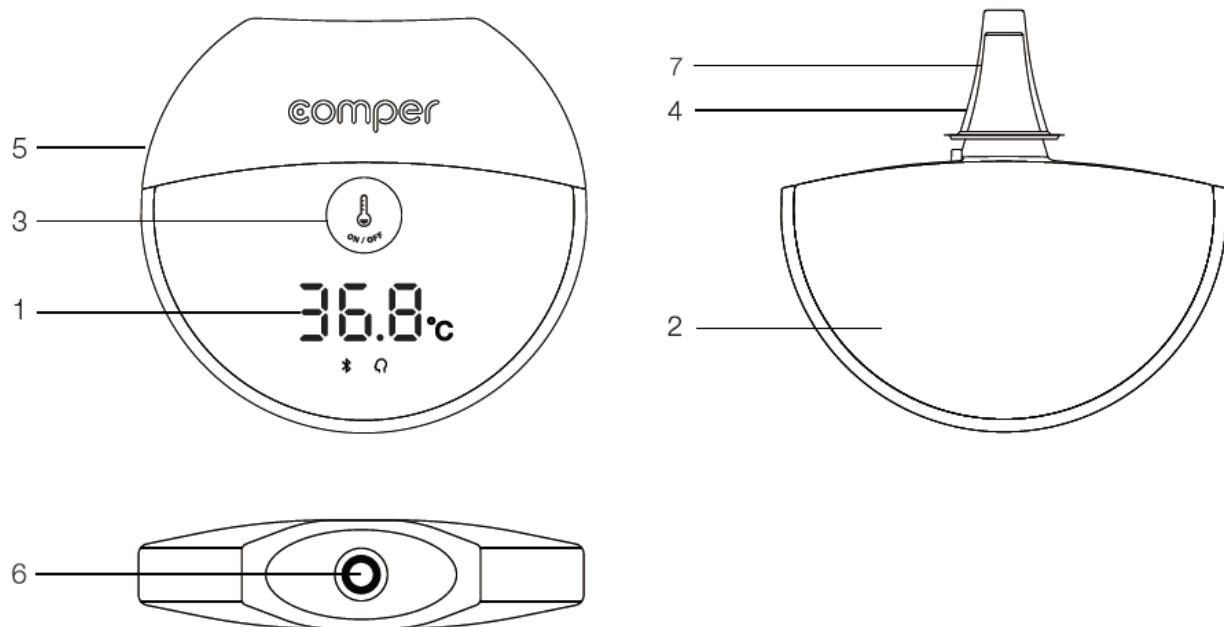

Figure 1
**Parts List:** As shown in Figure 1, it is composed of seven parts